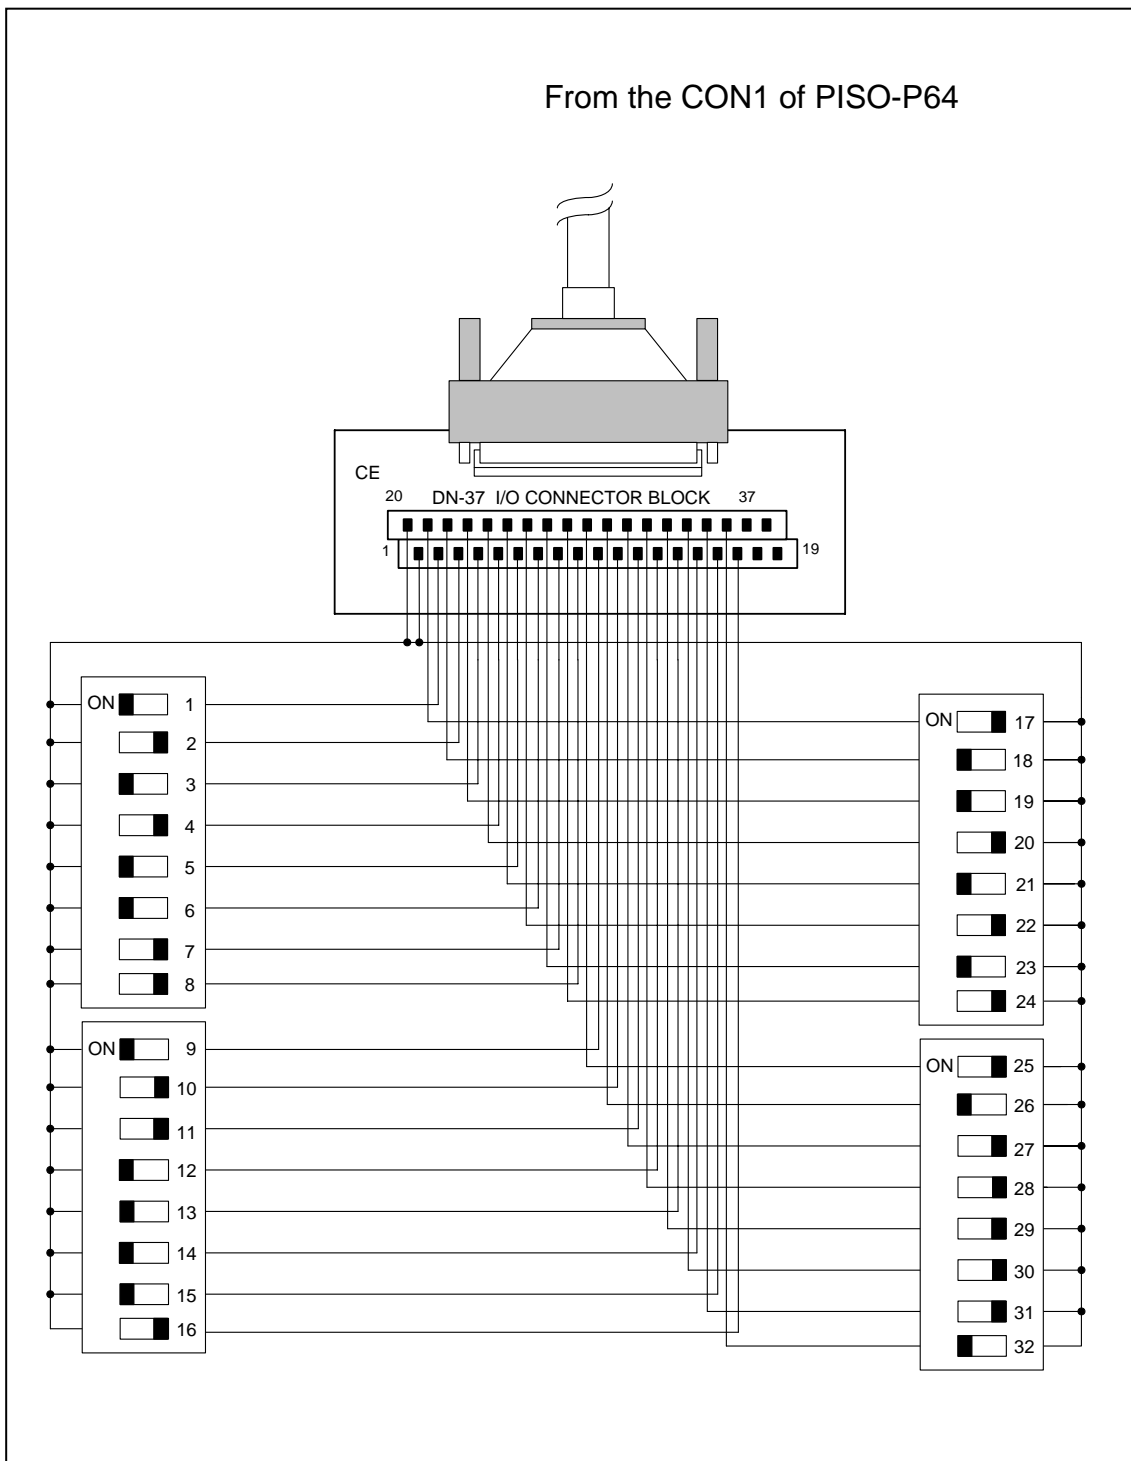

Figure 4-2-2. The circuit diagram of external device 2 for the digital inputs of **PISO-P64**
- Refer to Figure 4-2-2 for the circuit diagram of external device 1